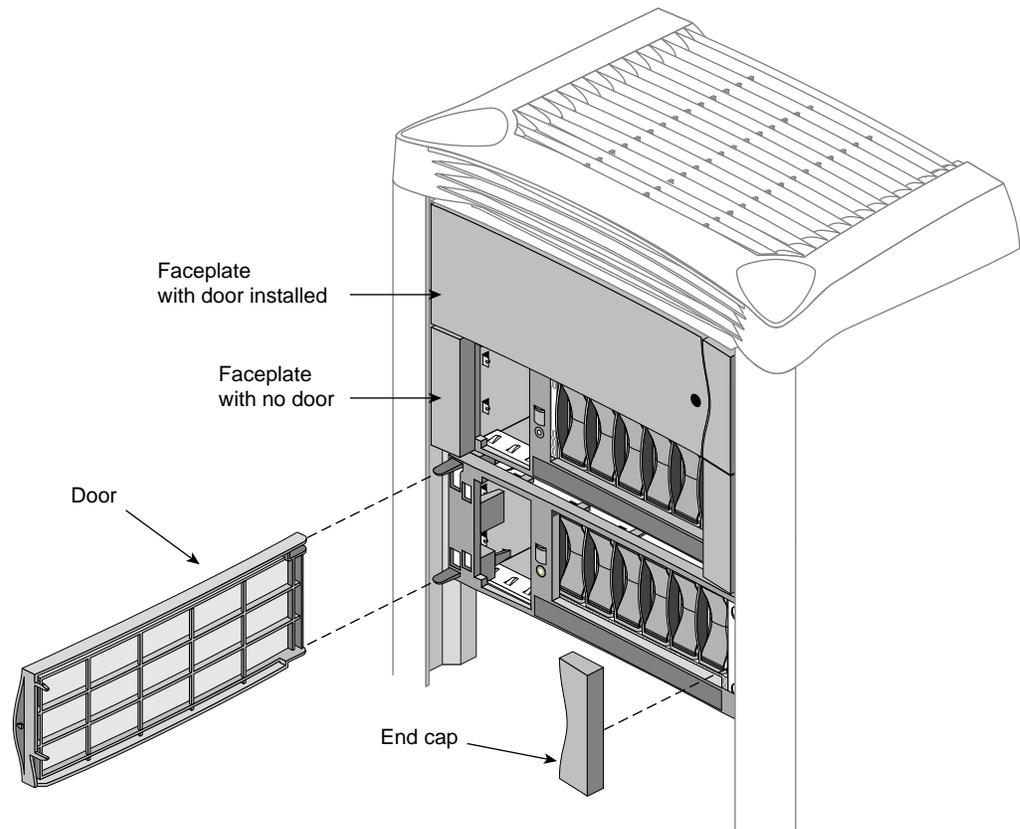

Figure 2-2 Removing the Faceplate: Origin2000 Rack
- Remove the door by pulling it off the hinges (see Figure 2-2). Lay the door on a work surface.
- Pry off the end cap at the right end of the faceplate (see Figure 2-2).